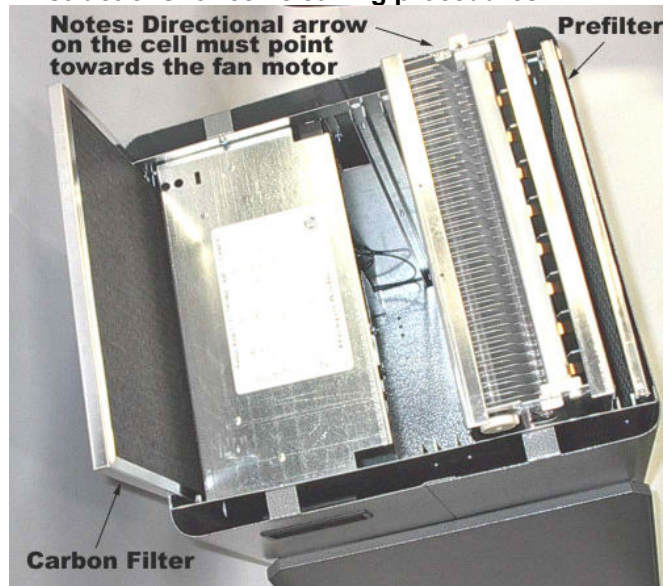

FIGURE 2 – MAKE SURE THE CELL AND FILTERS ARE PLACED CORRECTLY.
2. Remove and discard the plastic bag from the carbon filter. Install the carbon filter in the track near the exhaust grille. See Fig. 2.
The average person can detect the odor of ozone in concentrations as low as 0.003 to 0.010 parts per million (PPM). The electronic air cleaner contributes 0.005 to 0.010 PPM of ozone to the indoor air. The U. S. Food and Drug Administration and Health and Welfare Canada recommend that indoor ozone concentration should not exceed 0.050 PPM. As a comparison, the outdoor ozone level in major cities is sometimes as high as 0.100 PPM. However, if desired, the ozone generated by the air cleaner can be reduced by regular replacement of the carbon filter (every 3-6 months). Also, a second carbon filter can be installed in the filter track in the center of the Unit. See Fig. 2, Pg. 5.
- Make sure that the cell and filters are properly installed. See Fig. 2, Pg. 5.